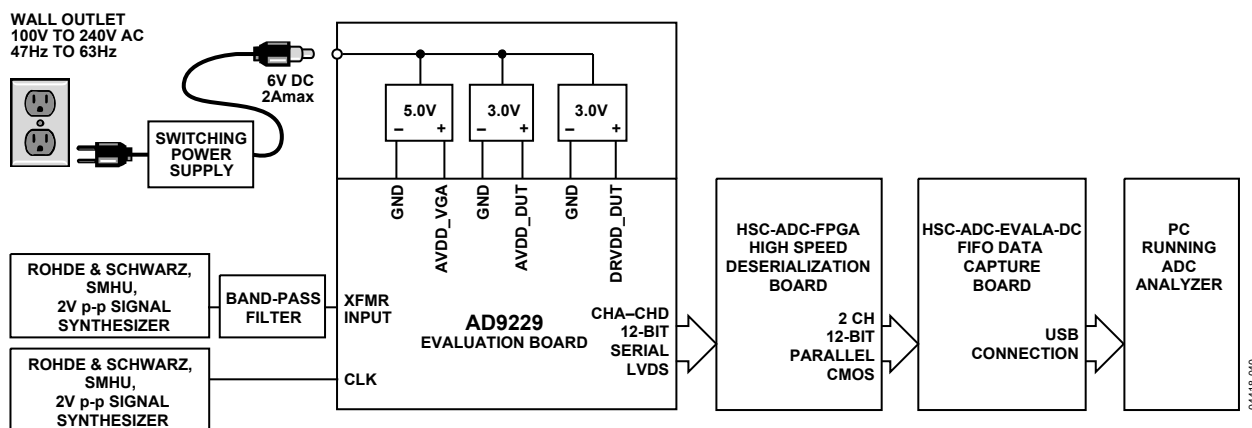
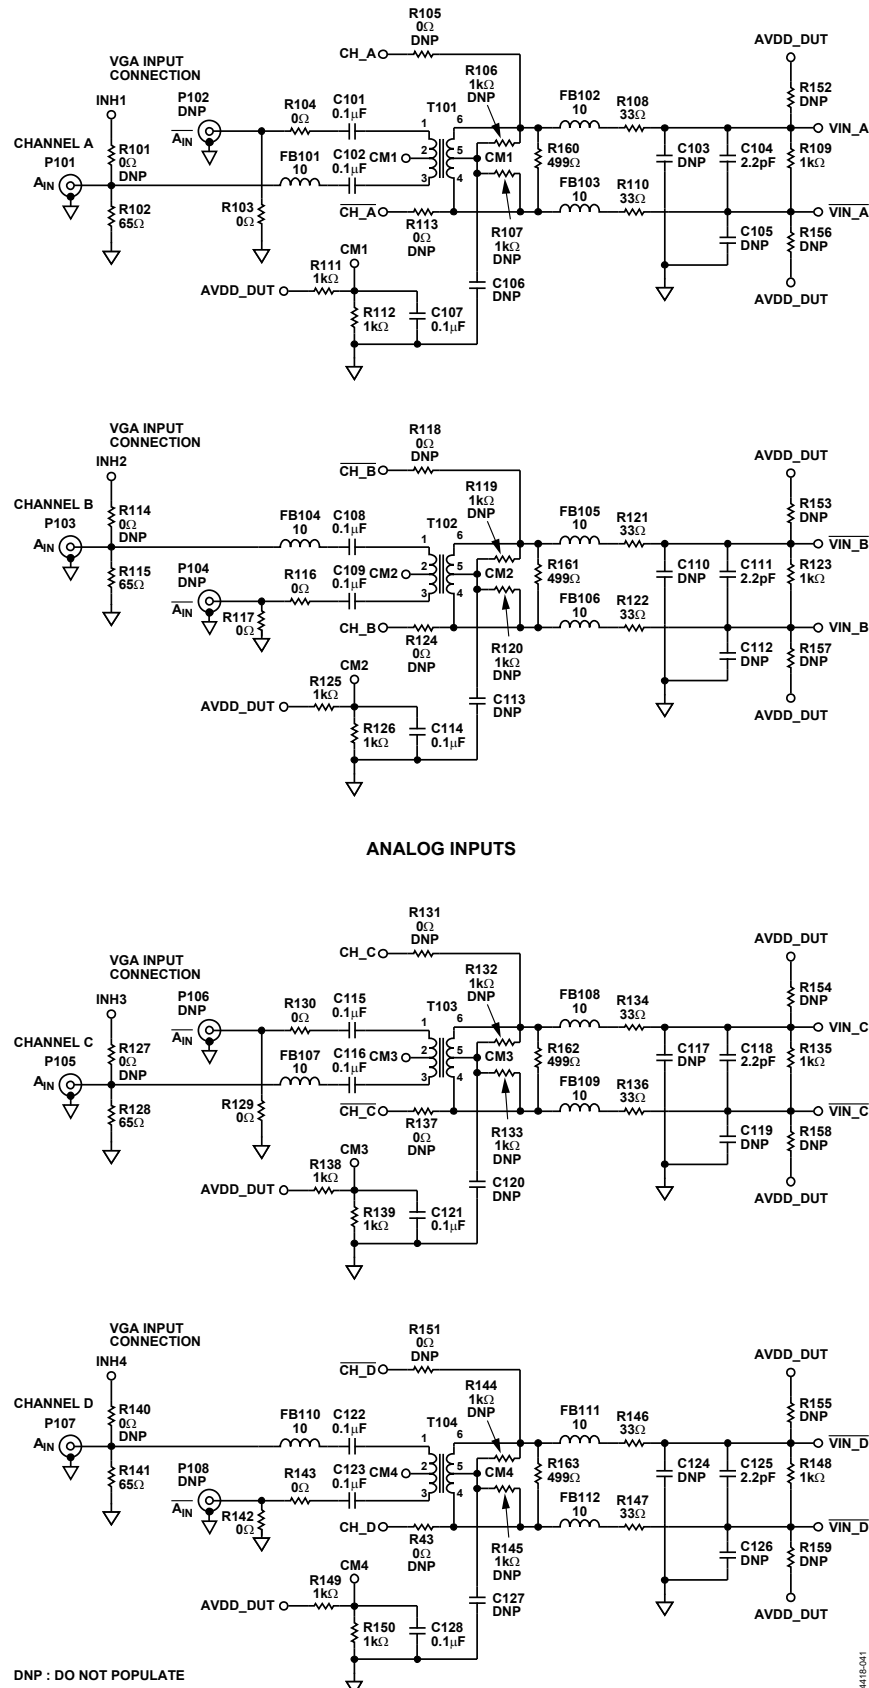

Figure 47. Evaluation Board Connections
Figure 48. Evaluation Board Schematic, DUT Analog Inputs
The AD9229 evaluation board provides all of the support circuitry required to operate the ADC in its various modes and configurations. The converter can be driven differentially through a transformer (default) or through the AD8332 driver. The ADC can also be driven in a single-ended fashion. Separate power pins are provided to isolate the DUT from the AD8332 drive circuitry. Each input configuration can be selected by proper connection of various jumpers (see Figure 48 to Figure 52). Figure 47 shows the typical bench characterization setup used to evaluate the ac performance of the AD9229. It is critical that the signal sources used for the analog input and clock have very low phase noise (<1 ps rms jitter) to realize the ultimate performance of the converter. Proper filtering of the analog input signal to remove harmonics and lower the integrated or broadband noise at the input is also necessary to achieve the specified noise performance.
See Figure 47 to Figure 57 for complete schematics and layout plots that demonstrate the routing and grounding techniques that should be applied at the system level.
- **D+, D-:** If an alternate data capture method to the setup described in Figure 47 is used, optional receiver terminations, R205 to R210, can be installed next to the high speed backplane connector.